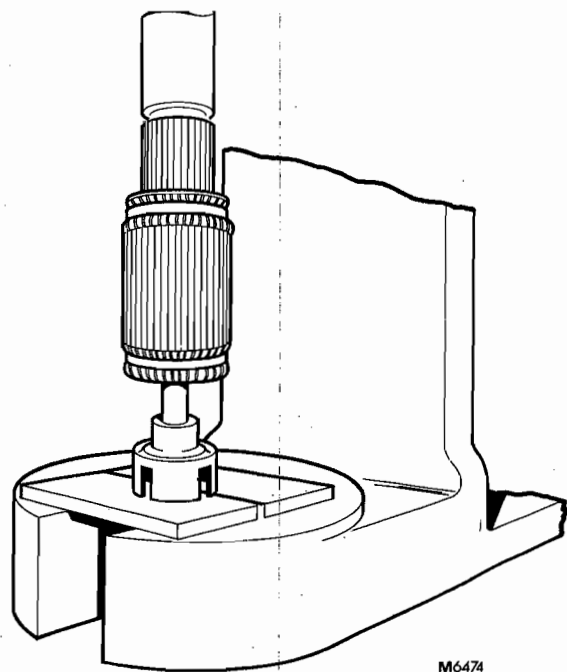

FIG. 2. PRESSING ON THE CLUTCH OUTER RACE
2. Using a 'growler' armature tester, check the armature windings for continuity and short circuits. If suitable test equipment is not available the armature should be tested by substitution. Should the armature be faulty, the clutch outer race (36) should be pressed off the defective shaft and, using a suitable tool, pressed onto the shaft of a new armature (see Fig. 2).